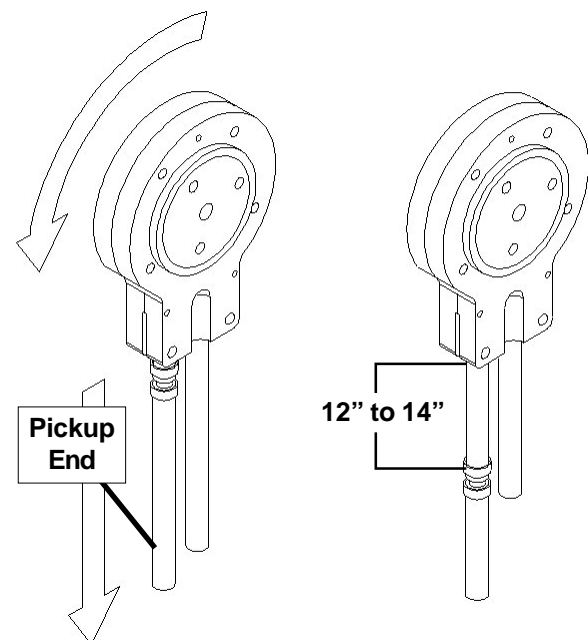

Figure 4-4 Pump Hose Reposition
- C. Grasp the pickup hose end of the mix pump hose with one hand and turn the pump on. Pull down on the pickup hose end until 12 to 14 inches of tubing has fed through the pump then turn the pump off (Fig. 4-4).